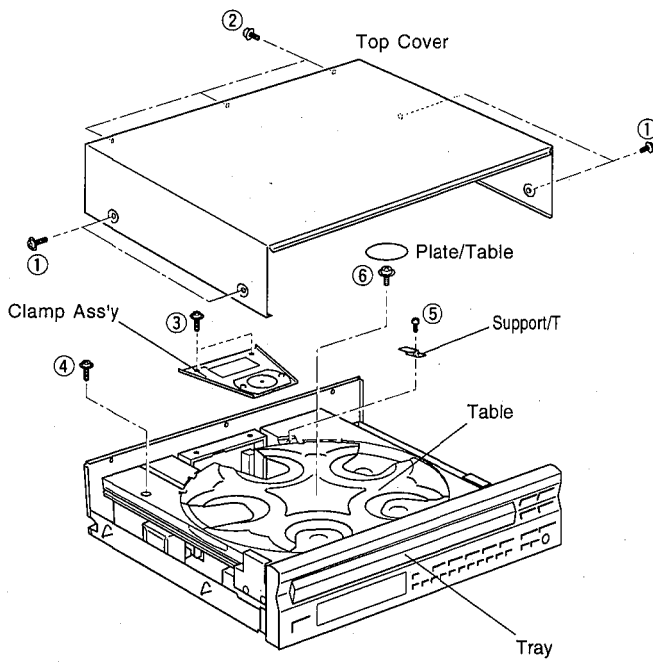

Fig. 1
- a. Remove 4 screws (①) and also 3 screws (②) as shown in Fig. 1.
- a. Remove 2 screws (③) as shown in Fig. 1.
- a. Remove 1 screw (④) as shown in Fig. 1.
- a. Remove 1 screw (⑤) and then remove the Support/T as shown in Fig. 1.
- b. Remove the Plate/Table as shown in Fig. 1.
- c. Remove 1 screw (⑥) and then take off the Table as shown in Fig. 1.